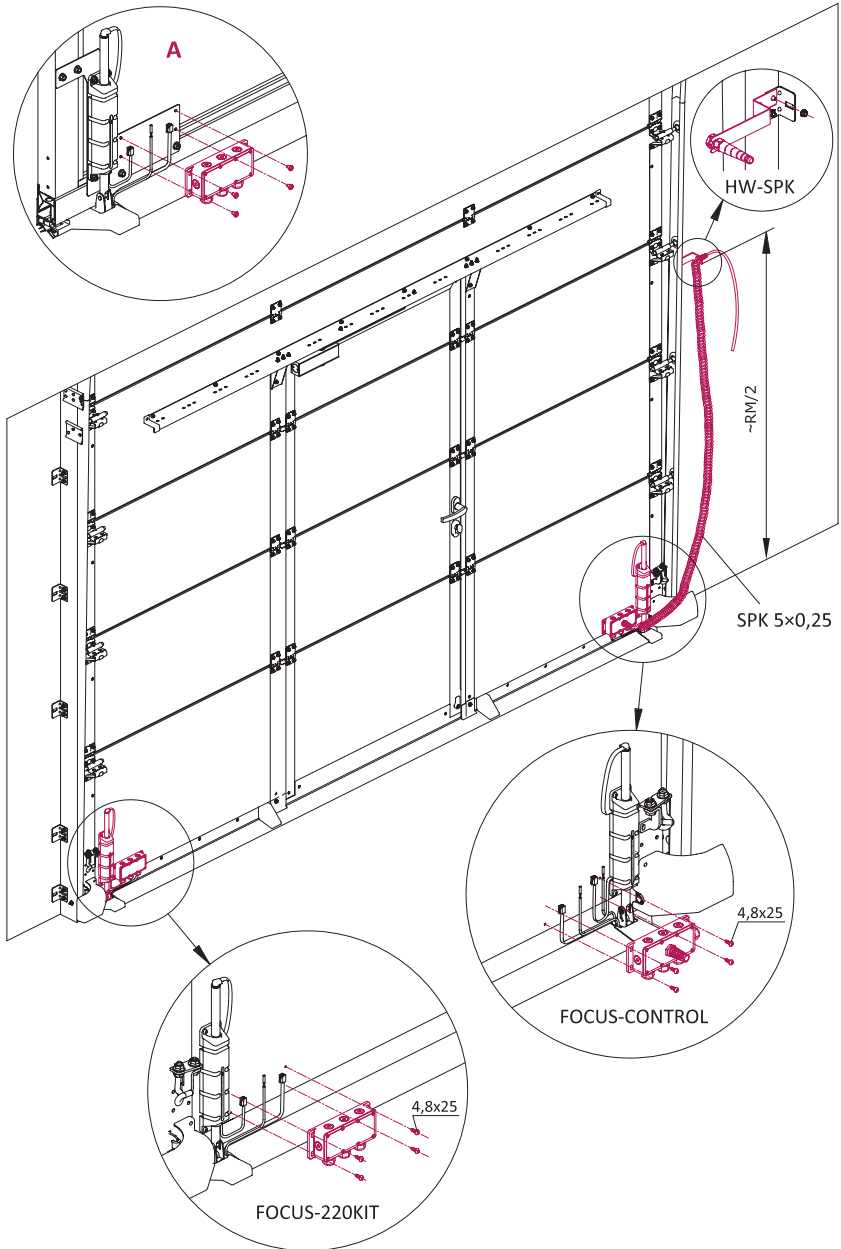

Fig. 2 — Installation of **FOCUS-210** and **FOCUS-220KIT**
- Install the boxes of **FOCUS-210 (FOCUS-CONTROL)** and **FOCUS-220KIT** (*fig. 2*) on the door leaf made of sandwich panels, using 4.8×25 screws (8 pieces are included in the door delivery kit). There are two premade holes in the door leaf that determine the location of the boxes.
If the bottom door section is panoramic, the boxes are fixed to the preinstalled steel plates (*fig. 2, View A*) using M5×8 screws (8 pieces are included in the door delivery kit).
- Install the bracket **HW-SPK** (*fig. 2*) on the outside of the angle track profile not lower than half of the door opening height (approx. **RM/2**).
- Insert the short end of the **SPK** 5×0.25 spiral cable (*fig. 2*) through the special cable entry of the **FOCUS-CONTROL** box, and insert the long end through the cable entry of the **HW-SPK** bracket.